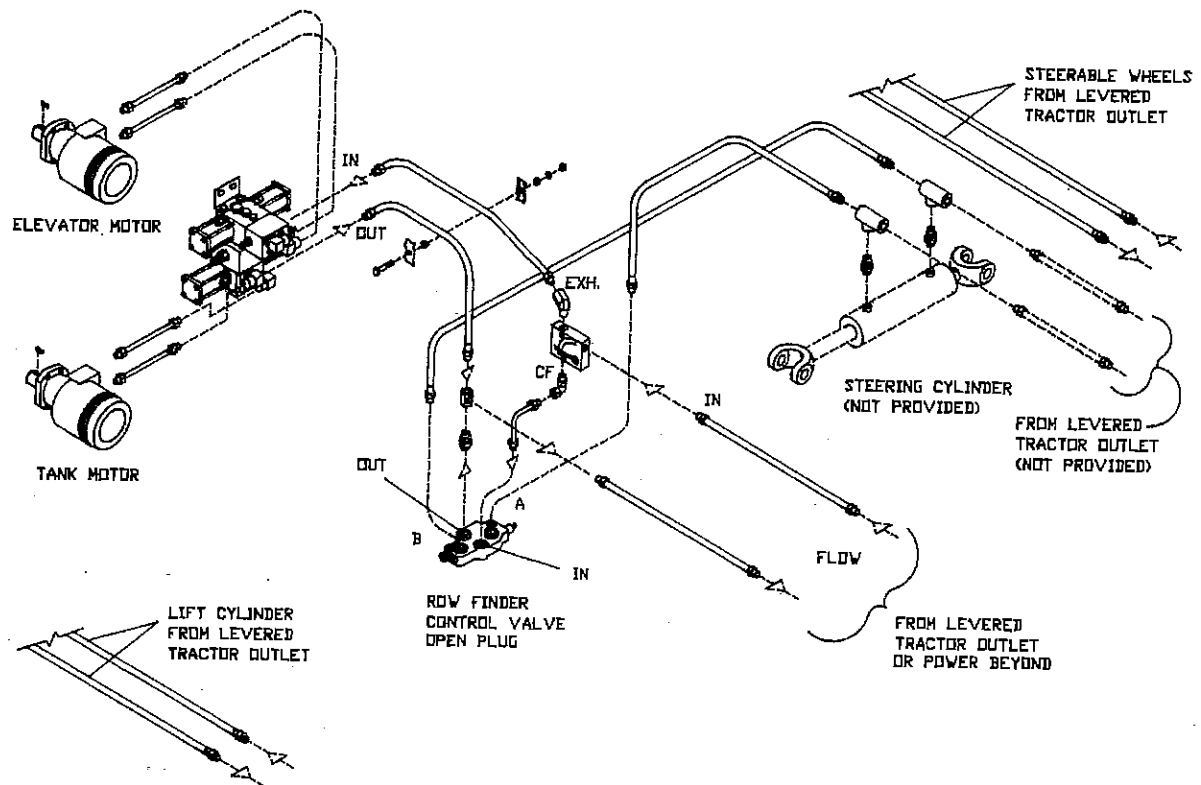

FIGURE 63 - PFC SYSTEM
Install elbows to flow control valve (H) and attach to frame hitch support. Install 26" hydraulic hose from flow control valve to "IN" port on row finder valve. (see Figure 63, page 41).
Option: If auxiliary flow divider is used, c and d can be operated out of one remote (Figure 63).
Option: If steerable wheels are used, c and d can be operated out of one (#3) remote if auxiliary flow divider is used. Plumbing has to be according to Figure 63 (PFC system).
Tractors with Three (3) Remotes (See Figure 63)